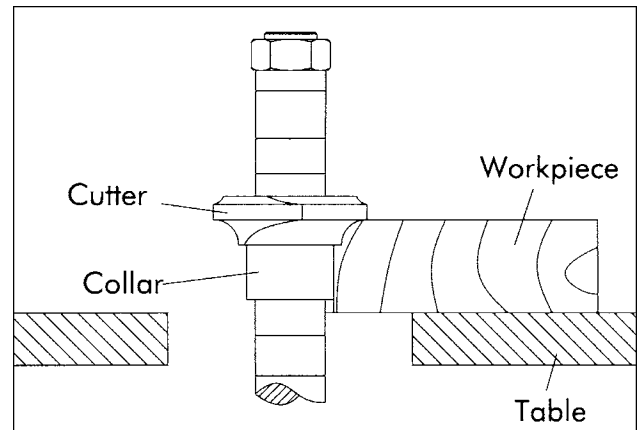

Figure 22
1. When the collar is used below the cutter, as shown in Figure 22, the progress of the cut can be seen throughout the operation. However, any accidental lifting of the work will gouge the wood and ruin the workpiece.